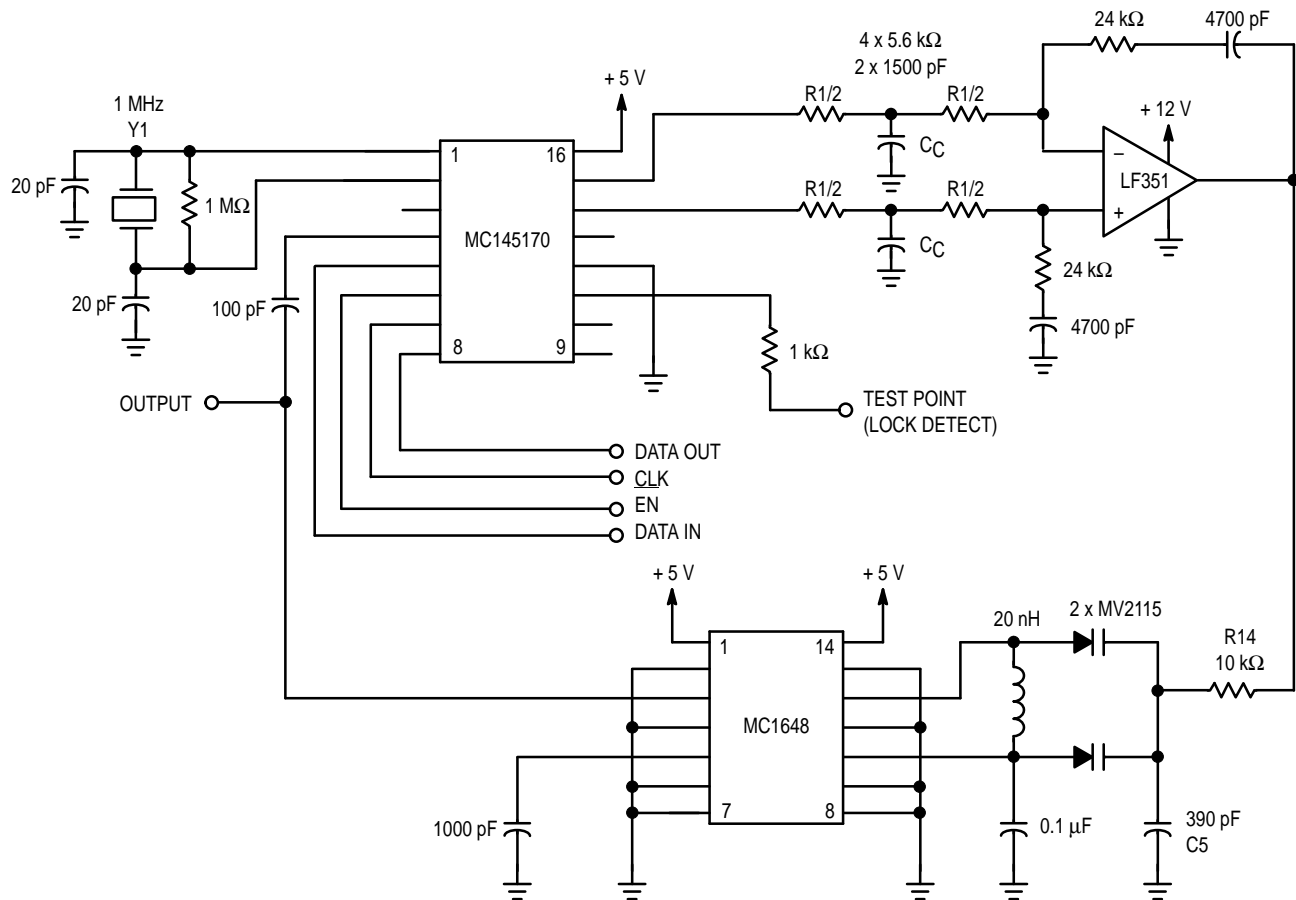

Figure 5. VHF Synthesizer
To illustrate design with the doubled-ended phase detector, the ϕ_R and ϕ_V outputs are used. This requires an operational amplifier, as shown in Figure 5. From the design guidelines shown in the MC145170 data sheet, the following equations are used:
For more demanding applications, extra filtering is sometimes added. This reduces the VCO sidebands caused by a small amount of the reference frequency feeding through the filter. One form of this filtering consists of spitting R_1 into two resistors; each resistor is one-half the value of R_1 , as indicated by $R_1/2$ in Figure 5. Capacitors C_C are added from the
The circuit of Figure 5 may not function at very-high temperature. The reason is that the MC145170 is guaranteed to a maximum frequency of 160 MHz at 85°C. Therefore, there is no margin for overshoot (reference Figure 4) at high temperature. There are two possible solutions: (1) use the MC145170-1 which is rated to 185 MHz, or (2) limit the tuning to less than 160 MHz.